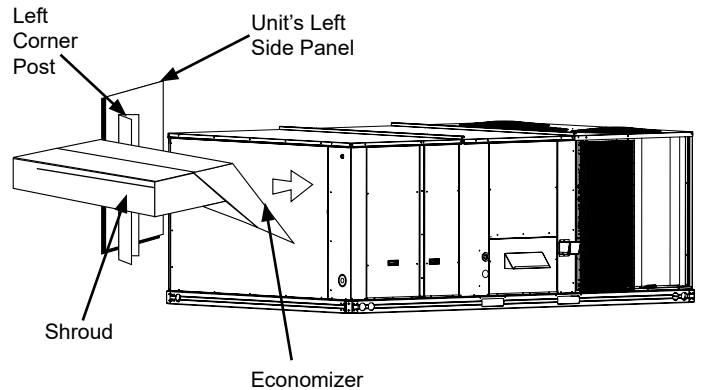
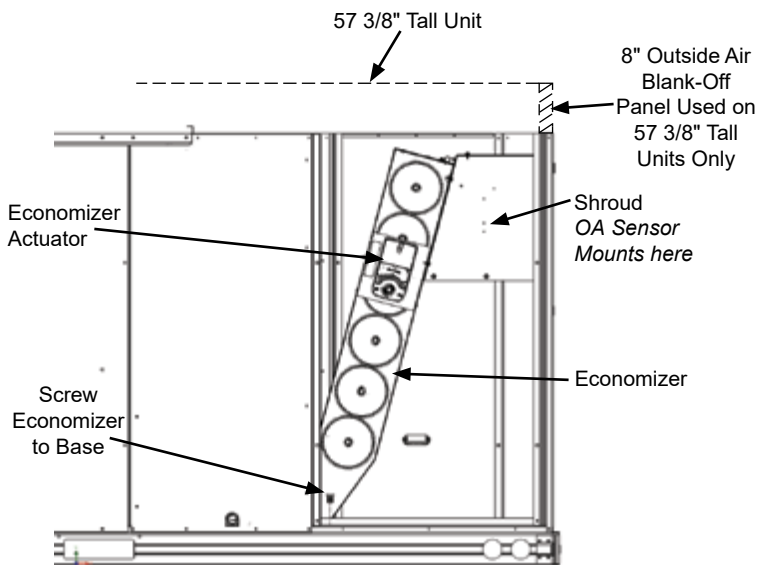
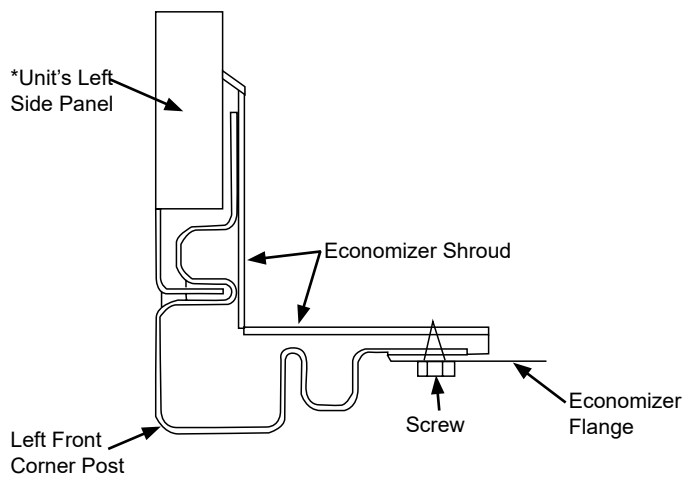

Fig. 2 - Unit Left Side Panel and Corner Post
Fig. 3 - Side View
Fig. 4 - Top View
- Remove the unit's left side corner post and left side panel from the unit to allow for easy economizer installation. (See Fig. 2.)
- Install economizer, with shroud attached as shown in See Figs 3 and 7, into the return air section of the unit. Be careful not to pinch the wires during installation. Bottom of economizer will rest on the base of the unit. (See Fig. 3.)
- Reinstall the left side corner post on to the unit. Note the corner post will sit behind the economizer shroud flange. (See Fig. 4.) Screw through the corner post and through the economizer shroud. (See Fig. 3 and 4.)
- Insert provided screw through the bottom left rear of the economizer and into the unit base. Screw OA sensor tapped to economizer directly through pre-punched holes located on the left side of the shroud. Connect the pink and violet (OAT) harness if you have the 9901-2021 dry bulb sensor or the gray (S-Bus) harness to the enthalpy sensor. (See Fig. 3.) Refer to "9901-2022 Outside Air Enthalpy Sensor" section for more details on enthalpy settings. Reinstall the unit's left side panel.
Note: If using economizer on 57 3/8" tall unit, install 8" outside air blank off panel above upper economizer panel, see Figure 3. Screw in place.
5. Install economizer with shroud attached, as shown in **Fig. 2**, into the return air section of the unit. Be careful not to pinch the wires during installation. Bottom of economizer will rest on the base of the unit. Screw OA sensor tapped to economizer directly through pre-punched holes located on the left side of the shroud. Connect the pink and violet (OAT) harness if you have the 9901-2021 dry bulb sensor or the gray (S-Bus) harness to the enthalpy sensor. (**See Fig. 3.**) Refer to "9901-2022 Outside Air Enthalpy Sensor" section for more details on enthalpy settings.
6. Reinstall the left side corner post on to the unit. Note the corner post will sit behind the economizer shroud flange. (**See Fig. 4.**) Screw through the corner post and through the economizer shroud. (**See Fig. 4 and 5.**)
7. Insert provided screw through the bottom left rear of the economizer and into the unit base. (**See Fig. 3.**) Install the new (*provided*) left side panel without the duct opening on the unit.